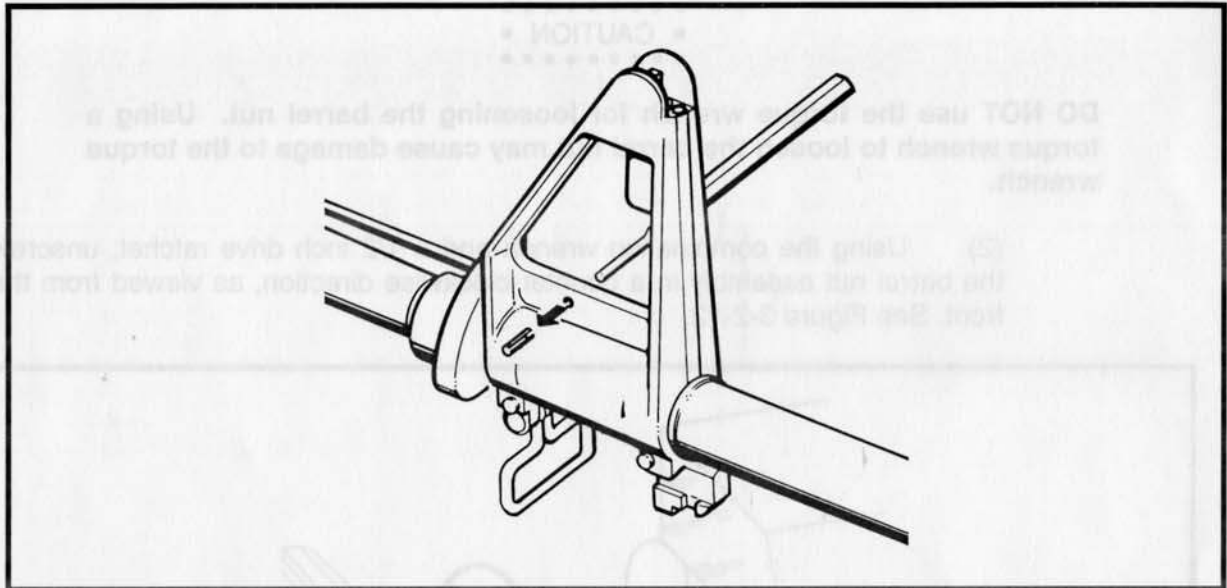

Figure 3-2-10 Removing the Gas Tube Pin
- (1) With the front sight bracket adequately supported, carefully drive out the gas tube pin using a suitable punch. See Figure 3-2-10; and